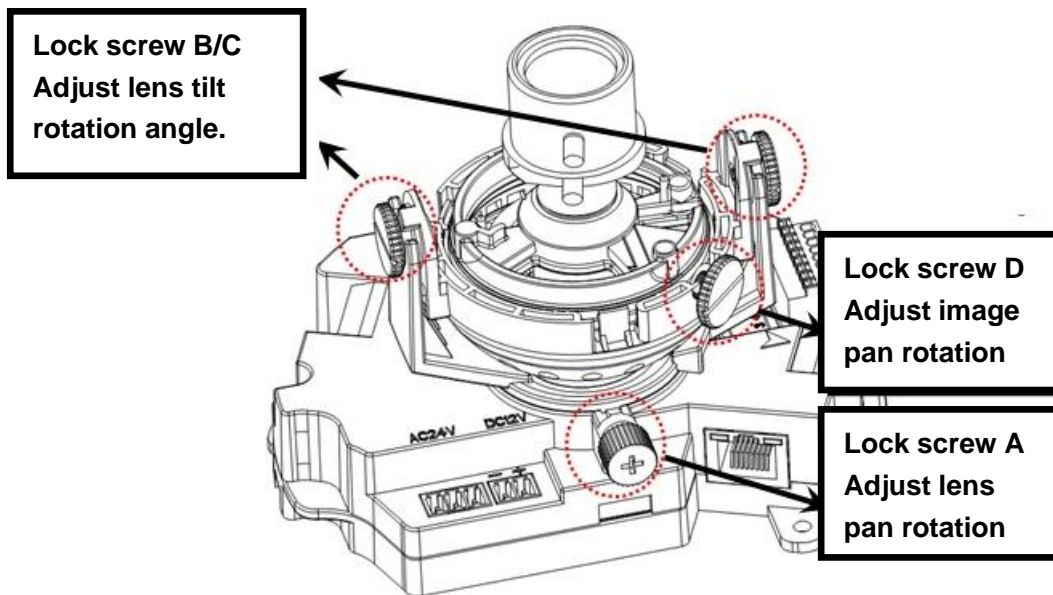

Figure 2-14
b) Lens pan rotation angle setup. Please refer to Figure 2-14 to unfasten the lock screw A and adjust the pan monitor angle to the proper position. Then fix the lock screw A. The pan angle ranges from $0^{\circ}\sim+350^{\circ}$.
c). Lens tilt rotation angle. Please refer to Figure 2-14 to unfasten the lock screw B and lock screw C and adjust the tilt monitor angle to the proper position. Then fix the lock screw B and lock screw C. The tilt angle ranges from $-20^{\circ}\sim+70^{\circ}$.
d). Image pan rotation angle setup. Please refer to Figure 2-14 to turn lock screw D to adjust the video pan angle. Then fix the lock screw B and C. The video pan angle ranges from $0^{\circ}\sim+350^{\circ}$.
Please note Figure 2-14 is based on the IR motorized zoom camera. For the IR manual zoom camera and non-IR series product, the lock screw position and the lens angle adjustment are the same.